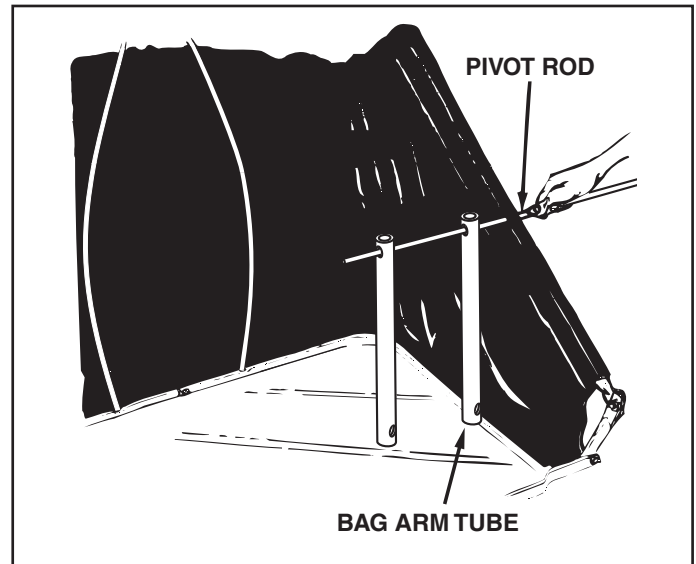

FIGURE 18
- Slide the hopper bag pivot rod through the hole in an upper hopper tube. Assemble two bag arm tubes and onto the rod as shown in figure 18. Push the rod on through the upper hopper tube on the opposite side of the bag.